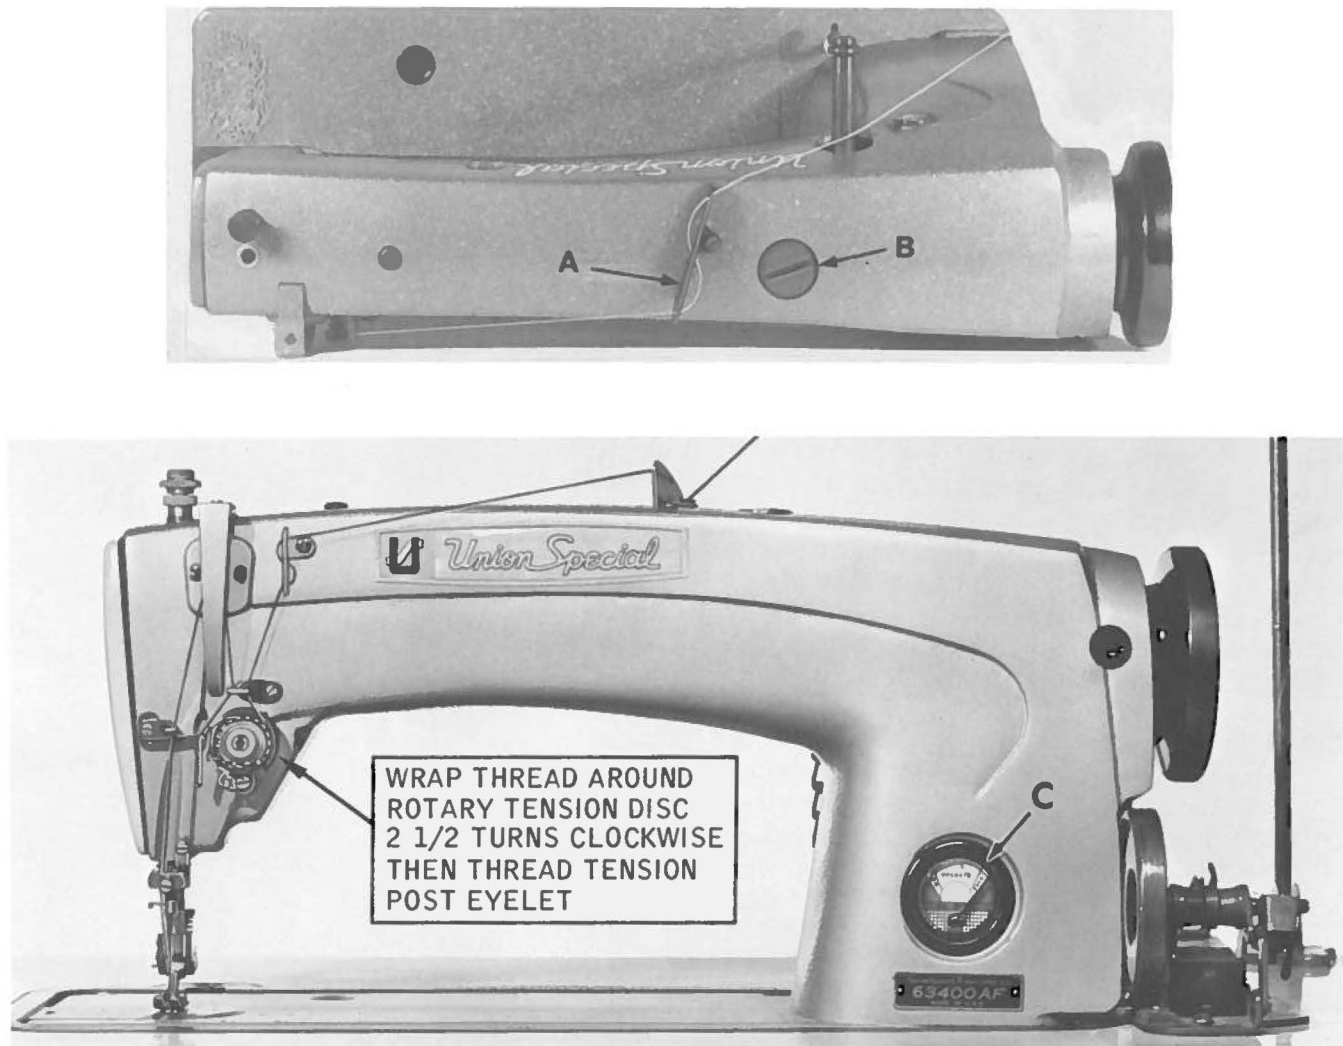

Fig. 2A
Insert hinge studs in holes provided for them in rear of cloth plate. Assemble the upper frame eyelet (A, Fig. 2A).
Thread machine as indicated in Fig. 2A. Check spring threading with dimensional requirements, has been enlarged for clarity and described under paragraph on "THREAD CONTROL". Needle is threaded from left to right.
Fill main reservoir at plug screw (B, Fig. 2A) and check oil level at gauge (C); oil is at maximum level when needle is in yellow band marked "FULL". Oil should be added when needle is in yellow band marked "LOW". Use a stainless water-white straight mineral oil of a Saybolt viscosity of 90 to 125 seconds at 100° Fahrenheit in the main reservoir. This is equivalent to Union Special specification No. 175.